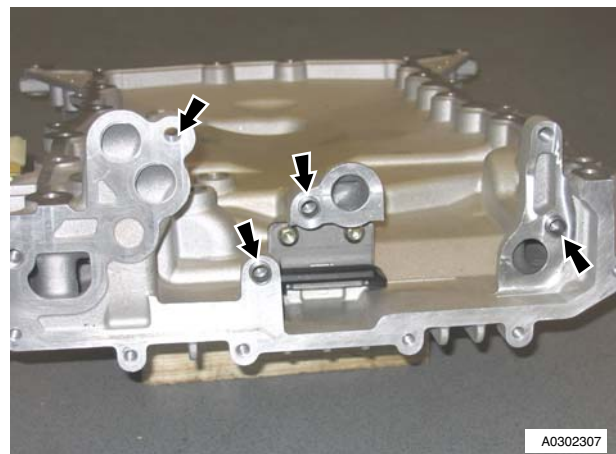

Figure 9
10. Remove Torx screws (x2) that attach the oil pump(s) chain guide, remove chain guide (refer to Figure 9).